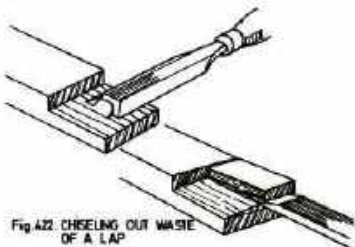

Fig.422 CHISELING OUT WASTE OF A LAP
8. Cut away the waste stock with a chisel. Fig.422.